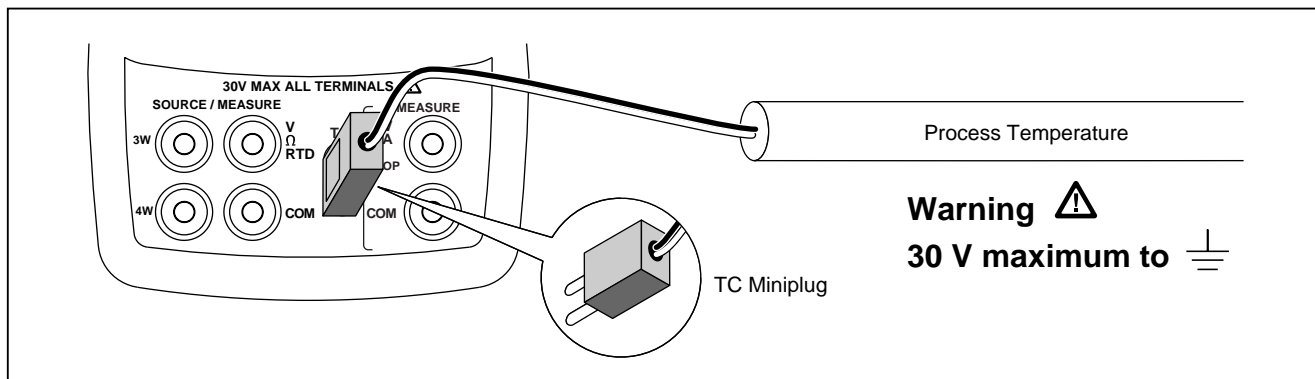

Figure 10. Measuring Temperature with a Thermocouple
1. Attach the thermocouple leads to the appropriate TC miniplug, then to the TC input/output as shown in Figure 10.